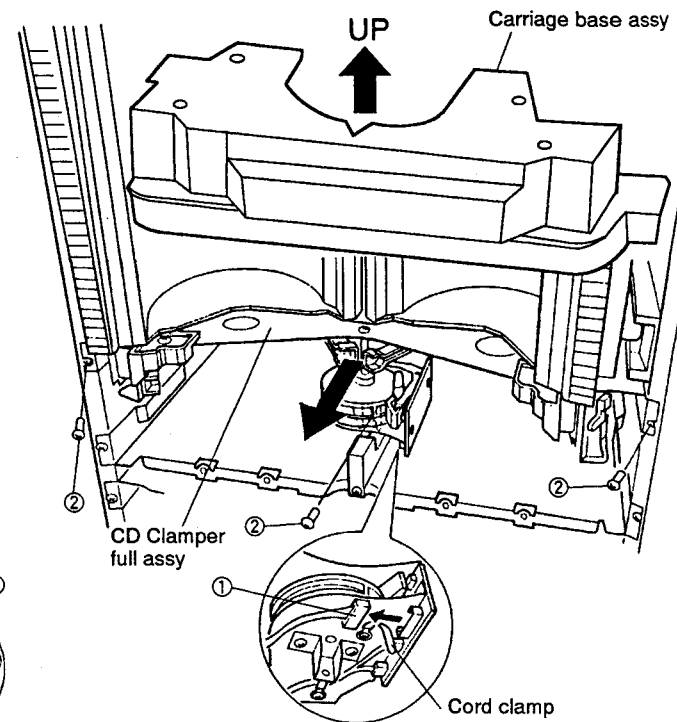

Fig.2 Disassembly the CD clamber full assy
• DISASSEMBLY THE CD CLAMPER FULL ASSY (Fig. 2)
2. Disconnect the relay connector ①.
3. Remove the three screws ②.